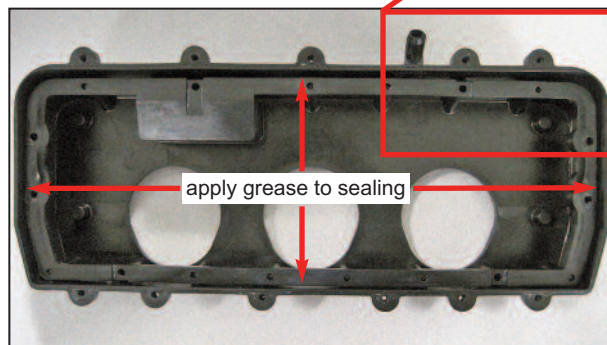

Fig. 3
4. Using the supplied grease, apply a bead of grease to the perimeter of the air box. (See Fig3.)